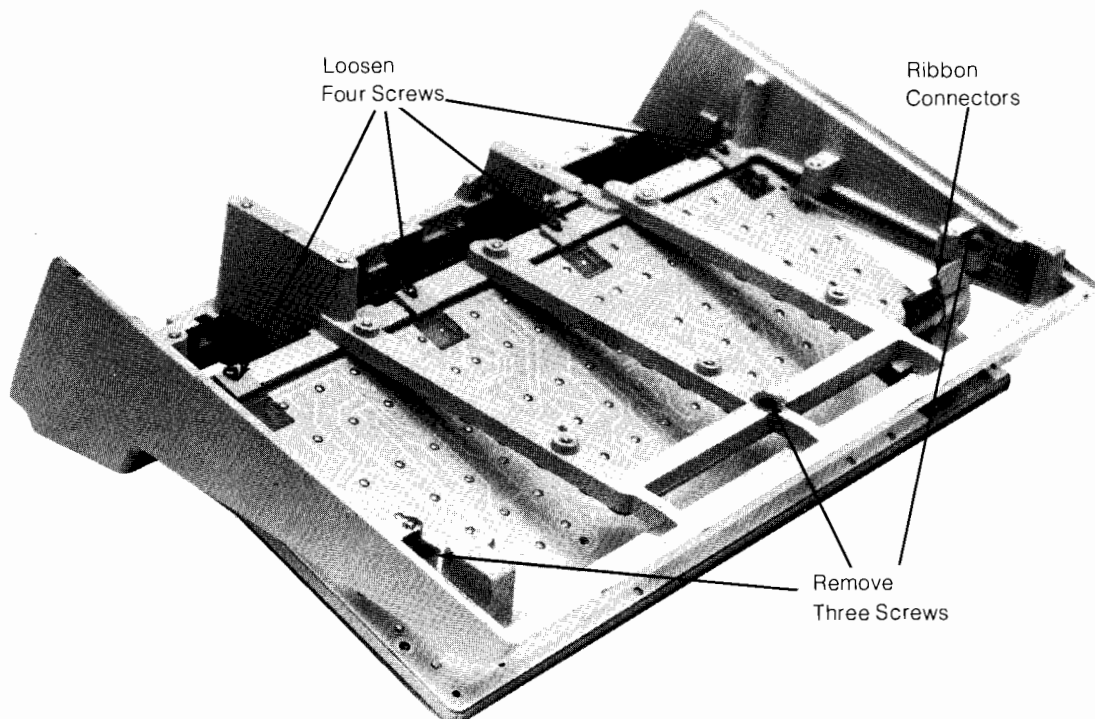

Figure 2-10 Key Switch Assembly Removal (9825A shown)
- The key switch assembly can be removed by pressing the front edge down (as viewed in Figure 2-10) and sliding it frontward until the rear tabs are free.
The key switch assembly can be removed with any or all other assemblies still in place on the bezel. Figure 2-10 shows them removed. Older revisions of the KDP assembly (HP part number 09825-66532) are of a different shape; holes in that assembly provide access to key switch screws.